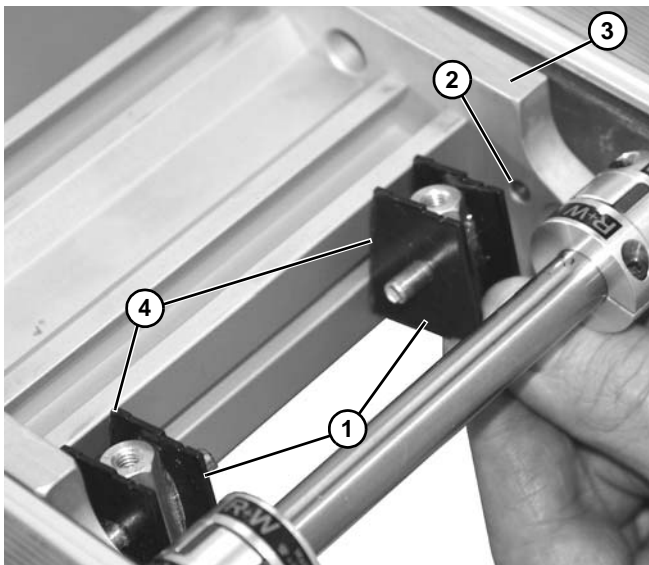

Figure 30
11. Install guard plate (**Figure 30, item 1**) pin into hole (**Figure 30, item 2**) on each side of tie tube (**Figure 30, item 3**).
Install guard plate (**Figure 30, item 1**) with offset angle (**Figure 30, item 4**) facing tie tube (**Figure 30, item 3**).